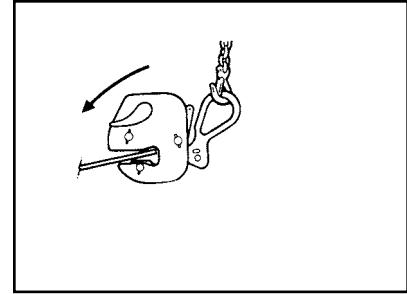

Figure 9
6. **DO** place the pad side (short leg) of the clamp under the plate when lifting from horizontal to vertical position with clamps other than GX or GXL models (Fig. 9).